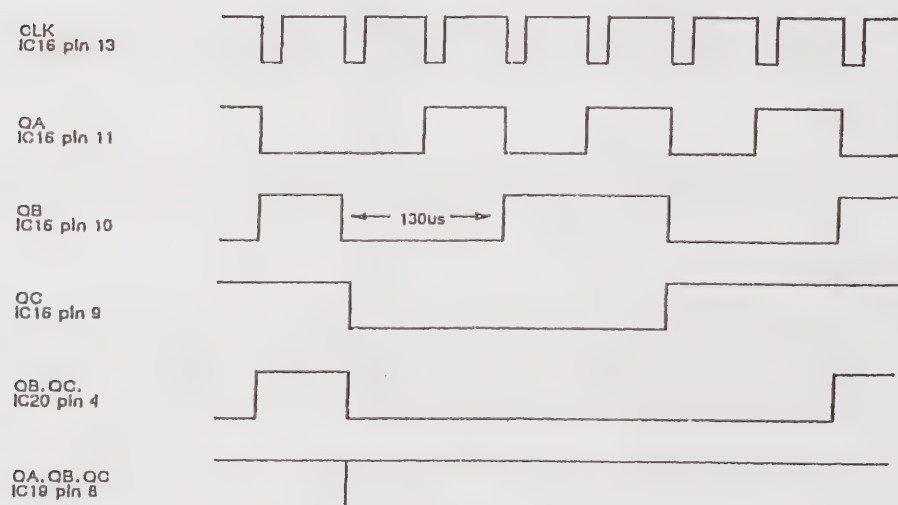

Fig. 5-4 Board AB3/2 columns counters timing
- (3) Check the operation of the columns counters and associated circuits as shown in Fig. 5-4.